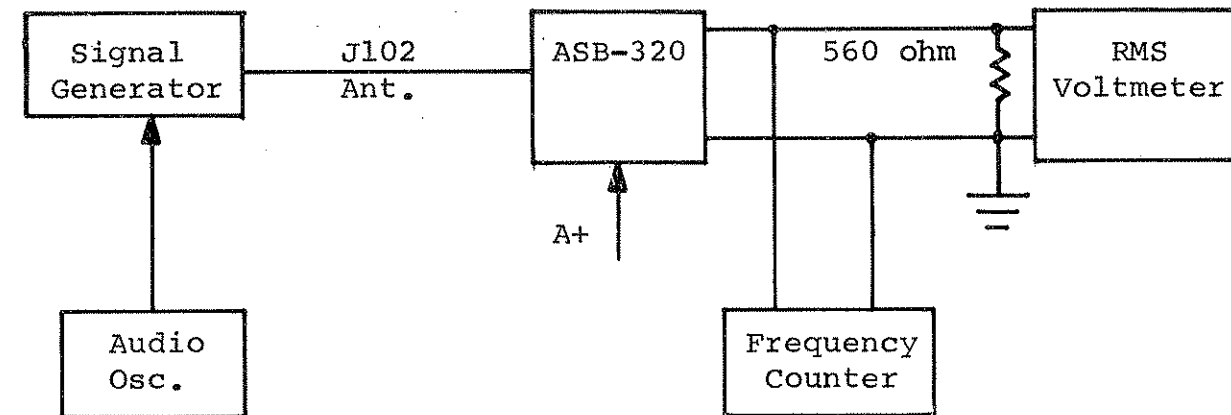

Figure V-4
- (1) Follow steps (1) through (4) of Paragraph 1-a.
- (2) Connect test equipment, as shown in Figure V-4.